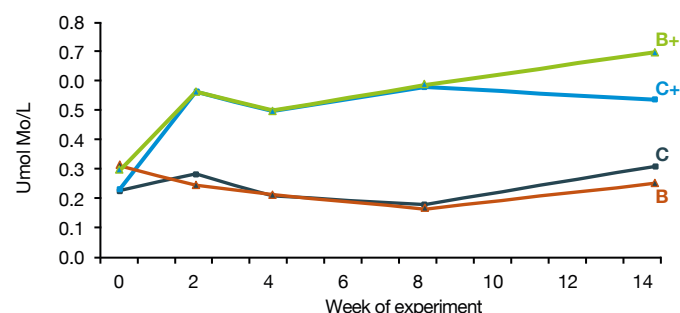

Figure 40. Effect of dietary treatment on blood Cu levels over time
- Adding antagonists progressively increased blood molybdenum concentrations (Figure 40)